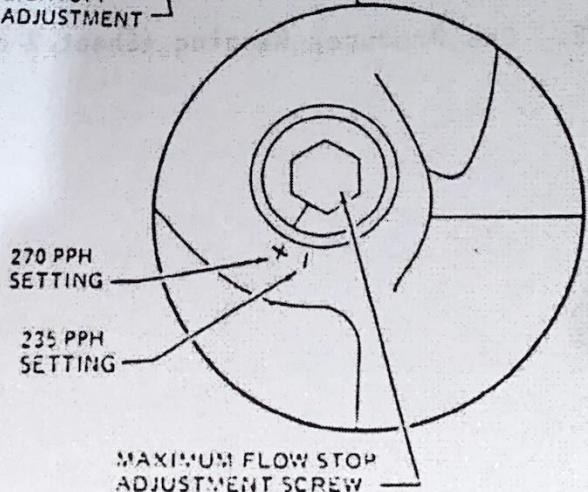

Figure 75-560-3. CECO MC-40 Gas Producer Fuel Control - Model 250-C20 Engine
2. Align hole in indicator pointer on gas producer lever with the rigging hole in the index plate. Use a 5/32" rod or drill to retain the pointer at the 30° reference mark (Figure 75-560-3).
5. Set the fuel control maximum fuel flow stop at the 235 pph location (Figure 75-560-3). Position the line on the adjustment screw opposite the (-) calibration point using a 3/16" allen wrench. Always turn the screw the shortest angular distance between the (+) and the (-) marks when making the adjustment. Do not loosen the 3/32 inch (2 mm) draglock setscrew, (located on the side of the fuel control), which provides frictional drag for the fuel flow stop adjustment screw.